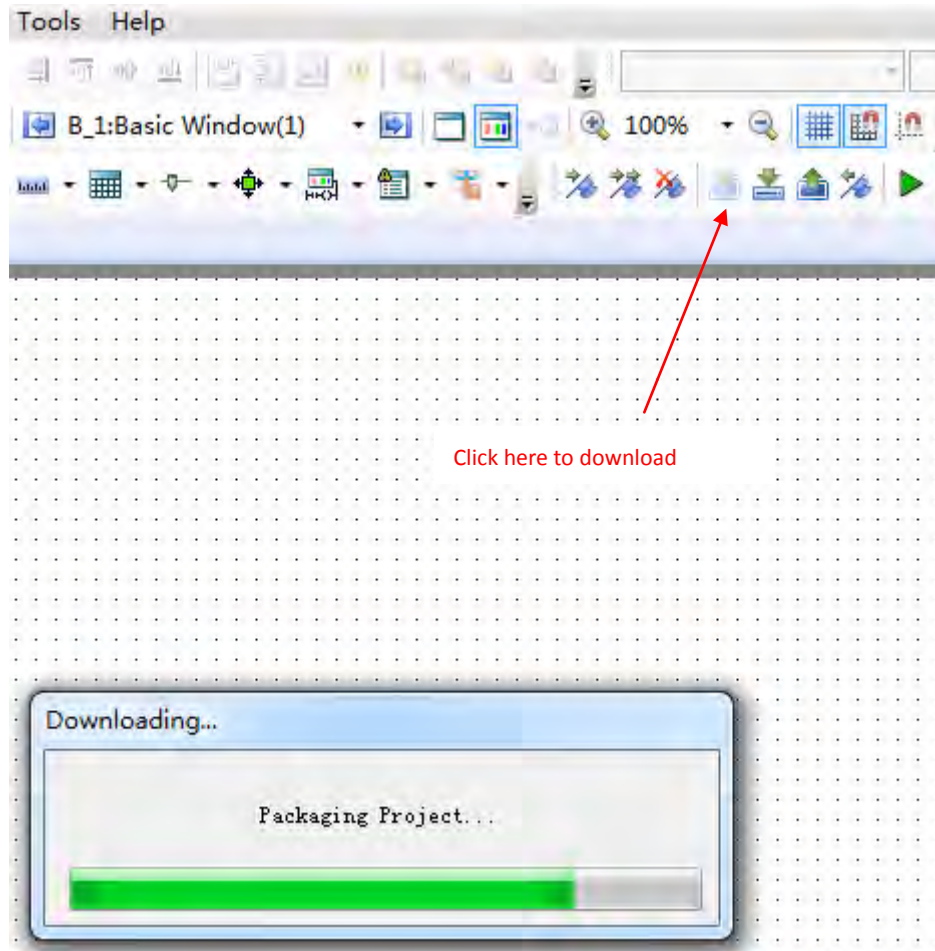

Fig. 25
① Switch on the power supply to the touch screen, select “Download” in the software, and wait till downloading is completed, as shown in Fig. 25.